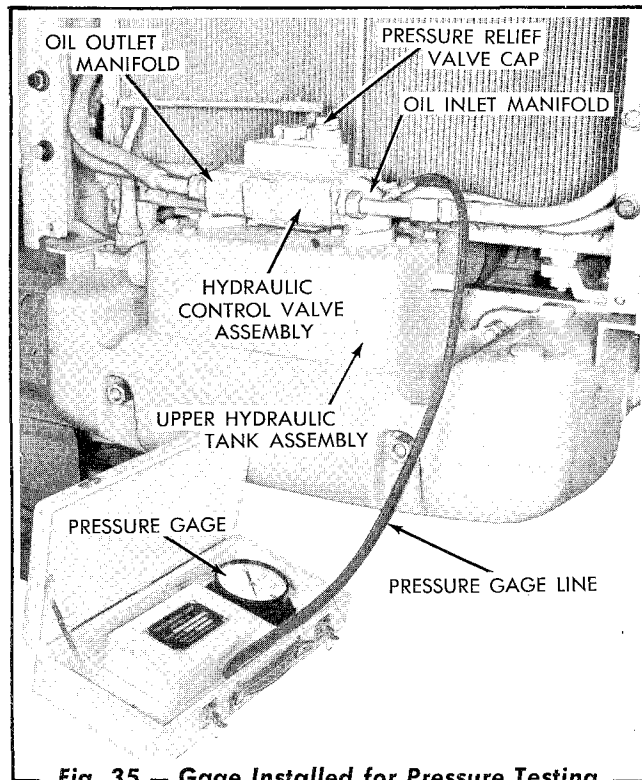

Fig. 35 — Gage Installed for Pressure Testing the Hydraulic System
2. **IMPORTANT:** *The oil in the hydraulic system should be at normal operating temperature when pressure testing.* Move the dozer operating control lever to the "Float" POSITION. Remove the hex-socket-head pipe plug (Fig. 23) from the oil inlet manifold and install a pressure gage (gage having a minimum capacity of 2000 P.S.I.) as shown in Fig. 35. **NOTE:** *The Master Gage Kit shown in Fig. 35 is available; contact your "Allis-Chalmers" Construction Machinery Dealer.*
5. To flush the pressure relief valve, stop the engine and loosen the pressure relief valve cap (Fig. 35) approximately three turns. Loosening the pressure relief valve cap will allow the pressure relief valve to open at a lower pressure and allow the oil to flush away any dirt from the valve seat. Start the engine and operate it at about 1/2 throttle. Move the operating control lever to the "Raise" and "Lower" positions several times to obtain the flushing action necessary to remove any dirt from the valve seat.